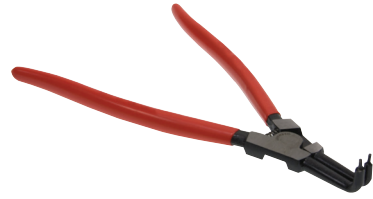

Figure 4-27: Example of Suitable Pliers
3. Use a suitable pair of pliers to dismount the outer sleeve. For an example of suitable pliers, see **Figure 4-27**.